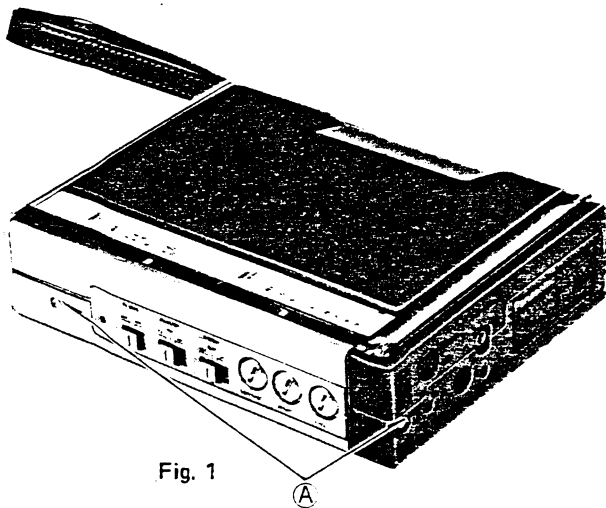

Fig. 1
1. Remove 2 screws **(A)** and 2 screws **(B)** as shown in Fig. 1, 2.